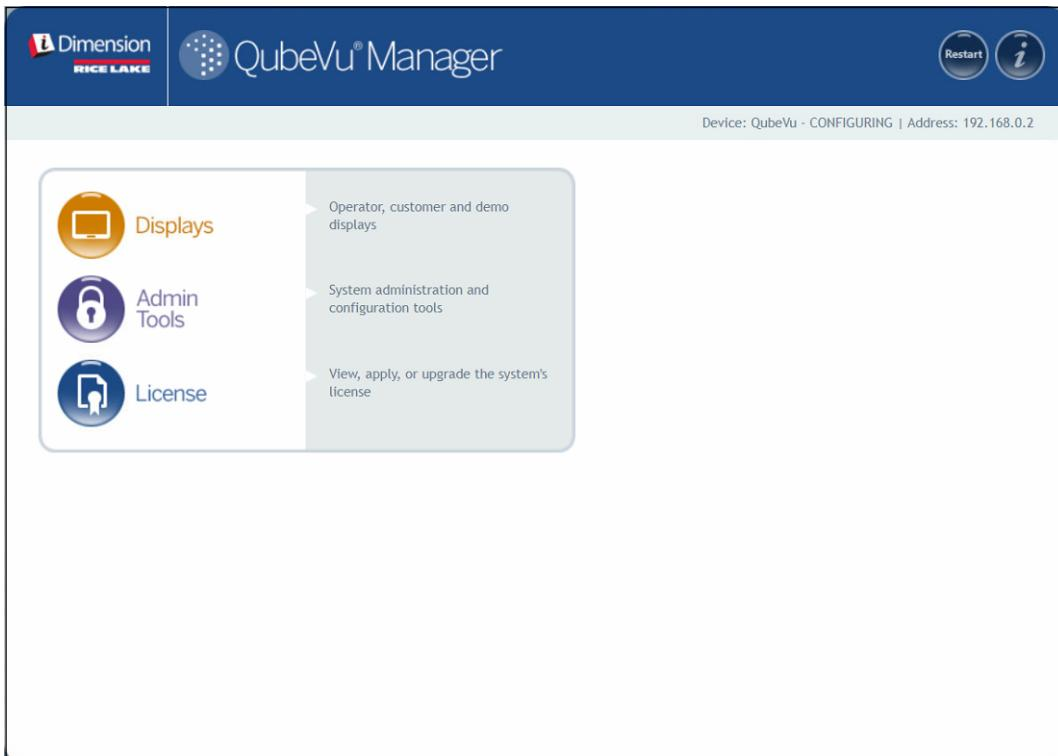

Figure 2-1. QubeVu Manager Home Page
- Select  **Displays** from the **QubeVu Manager** menu (Figure 2-1 on page 9) to enter the **Display Pages** menu